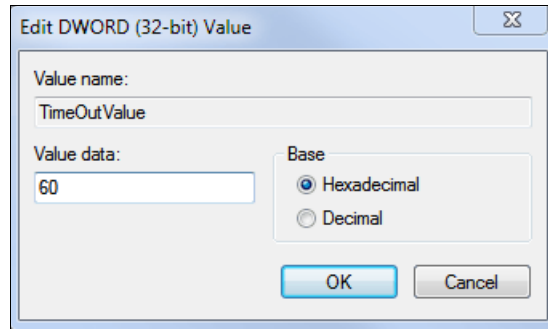

Figure 7-2 Regedit
4. Confirm that the value for the key is 60 (decimal value) and, if necessary, change the value to 60, as shown in Figure 7-2 on page 283.